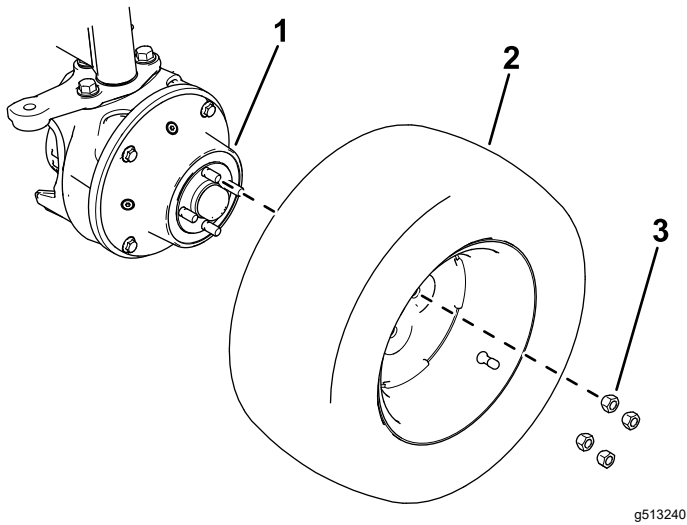

Figure 54
1. Remove the tires on the rear left and rear right side of the machine (Figure 54).